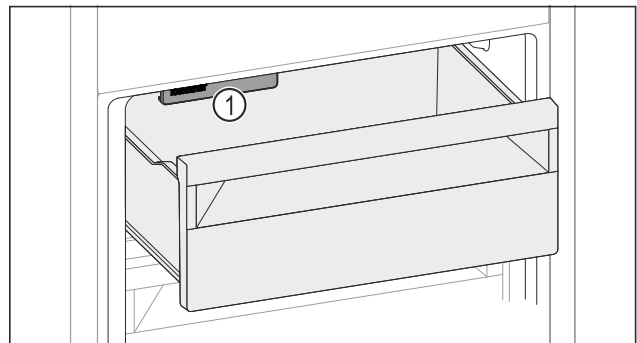

Fig. 151
- ▶ Pay attention to the IceMaker Fig. 151 (1).